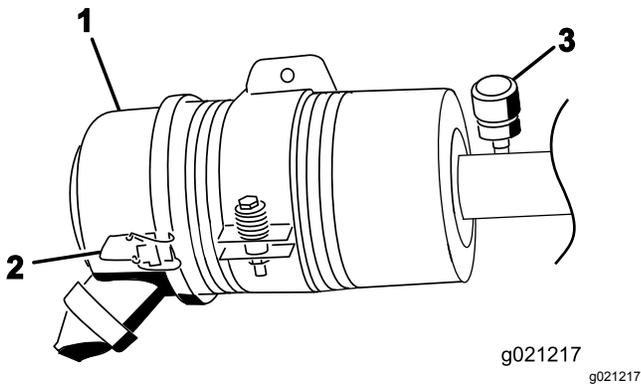

Figure 72
Service the air-cleaner filter only when the service indicator requires it (Figure 72). Changing the air filter before it is necessary only increases the chance of dirt entering the engine when you remove the filter.
1. Release the latches securing the air-cleaner cover to the air-cleaner body (Figure 72).